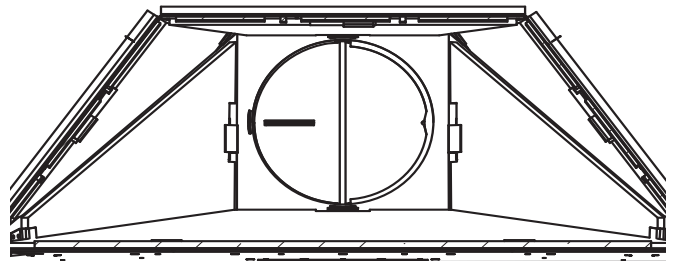

FIG.3
- C. Remove Screws from lower side brackets and remove the side upper panels **(FIG.3)**
- D. Slide top panel into smoke chamber and Install the 4 brackets removed in Step C. **(FIG.3)**